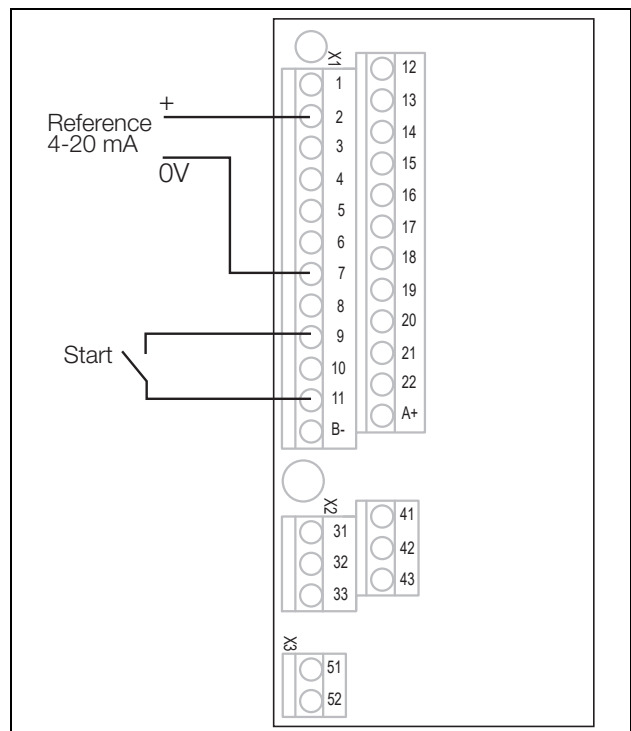

Fig. 74 Wiring
2. Connect a reference value between terminals 7 (Common) and 2 (AnIn 1) as in Fig. 74.
3. Connect an external start button between terminal 11 (+24 VDC) and 9 (DigIn2, RUNR) as in Fig. 74.
15. Connect digital and analogue inputs/outputs as in Fig. 74.